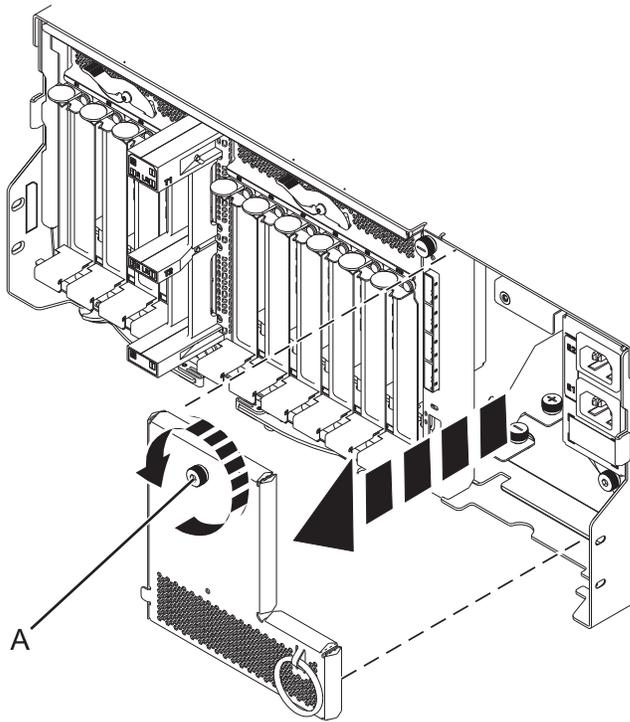

Figure 97. Removing the power cord plate
9. Remove the power cord plate by turning the thumbscrew (A) and pulling the plate away from the system, as shown in Figure 97.